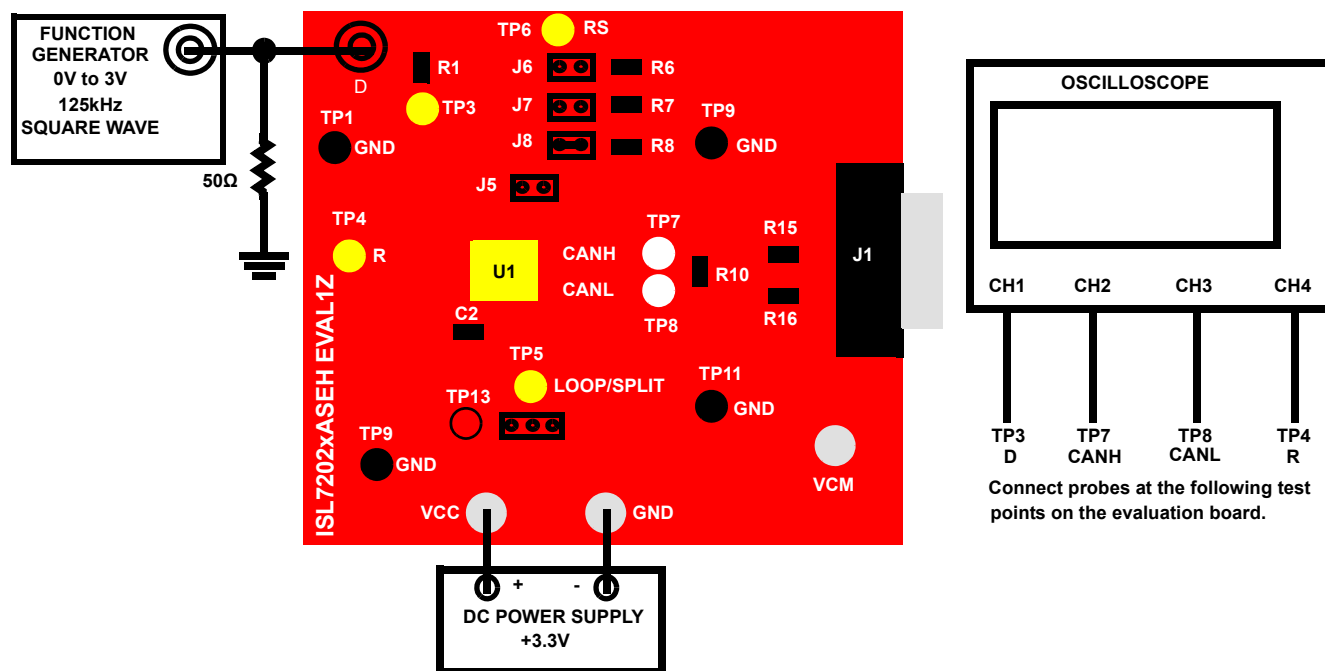

Figure 2.1 Basic Evaluation Test Setup Block Diagram (Measuring Propagation Delay, Skew, and Rise/Fall Time)
Refer to Figure 2.1 on page 8.
- (1) Attach the main evaluation board to the DC power supply to the banana jacks labeled VCC and GND as shown in Figure 2.1. Positive terminal at VCC and negative terminal at GND. The supply should be capable of delivering 3.0V to 3.6V and 100mA of current. Set the supply voltage to 3.3V.
- (2) Configure the board for High Speed mode by installing a jumper at J8. No jumpers should be installed at J5, J6, J7, and J9.
- (3) Connect the oscilloscope to the evaluation board as indicated in Figure 2.1.
- (4) Connect the function/signal generator at the BNC connector labeled D on the evaluation board as shown in Figure 2.1. Set the generator to output a 125kHz square wave, 0V to 3.3V amplitude, and 50% duty cycle with a $t_{\text{rise}} = t_{\text{fall}} \leq 6\text{ns}$. Disable the generator output.
- (5) Verify that a 60Ω resistor is installed at location R₁₀ on the evaluation board.